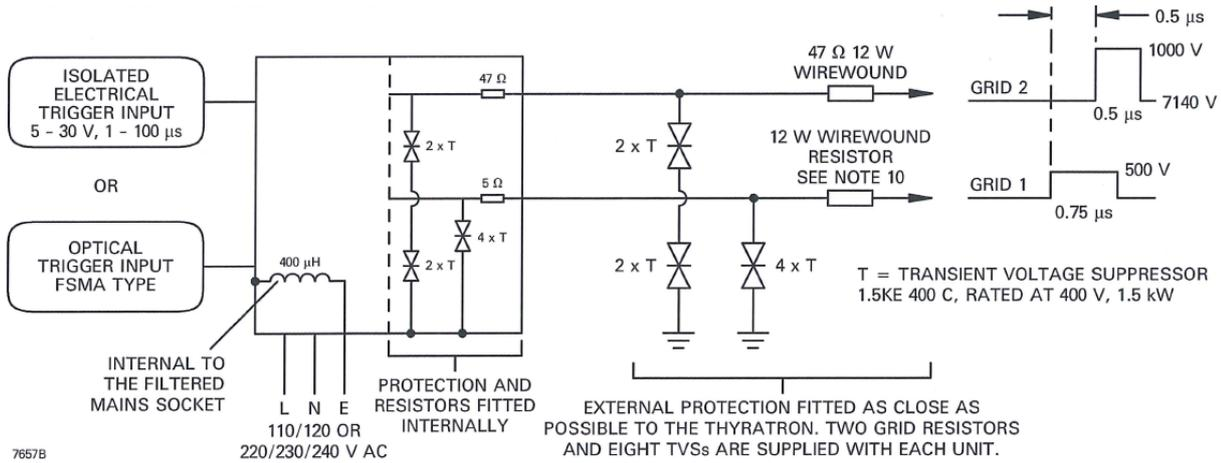

Fig.1 MA2709A remote from the thyatron discharge circuit
- Earthing of the MA2709A is via the coaxial SHV BNC outer braids. The outer terminal of the trigger input BNC socket is also connected to the box and it may be necessary to use a ferrite core to minimise earth currents flowing along the input coaxial cable. See Figs. 1 and 2 for practical earthing considerations when fitting the MA2709A into a circuit.